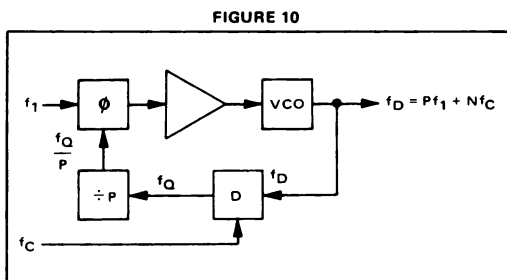

FIGURE 10
Using Equations (1) and (2) above the minimum value of f_C may be found for the circuit of Figure 10 and still get adequate frequency coverage. In this minimum configuration all necessary output frequencies may be generated by programming the "P" count string. But the divide number might bear no obvious relation to the output frequency such as often happens with non-mixing synthesizers.